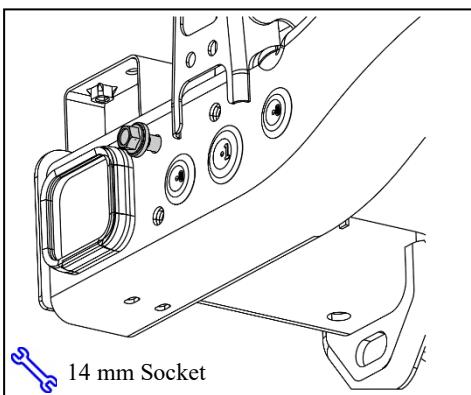

Fig. 3-1
- b. Torque fasteners to  $19 \text{ N}\cdot\text{m} \pm 4 \text{ Nm}$ . (Fig 3-1)
1. Insert one (1x) fine thread M10Bolt onto the frame in the location shown in Fig 3-1.